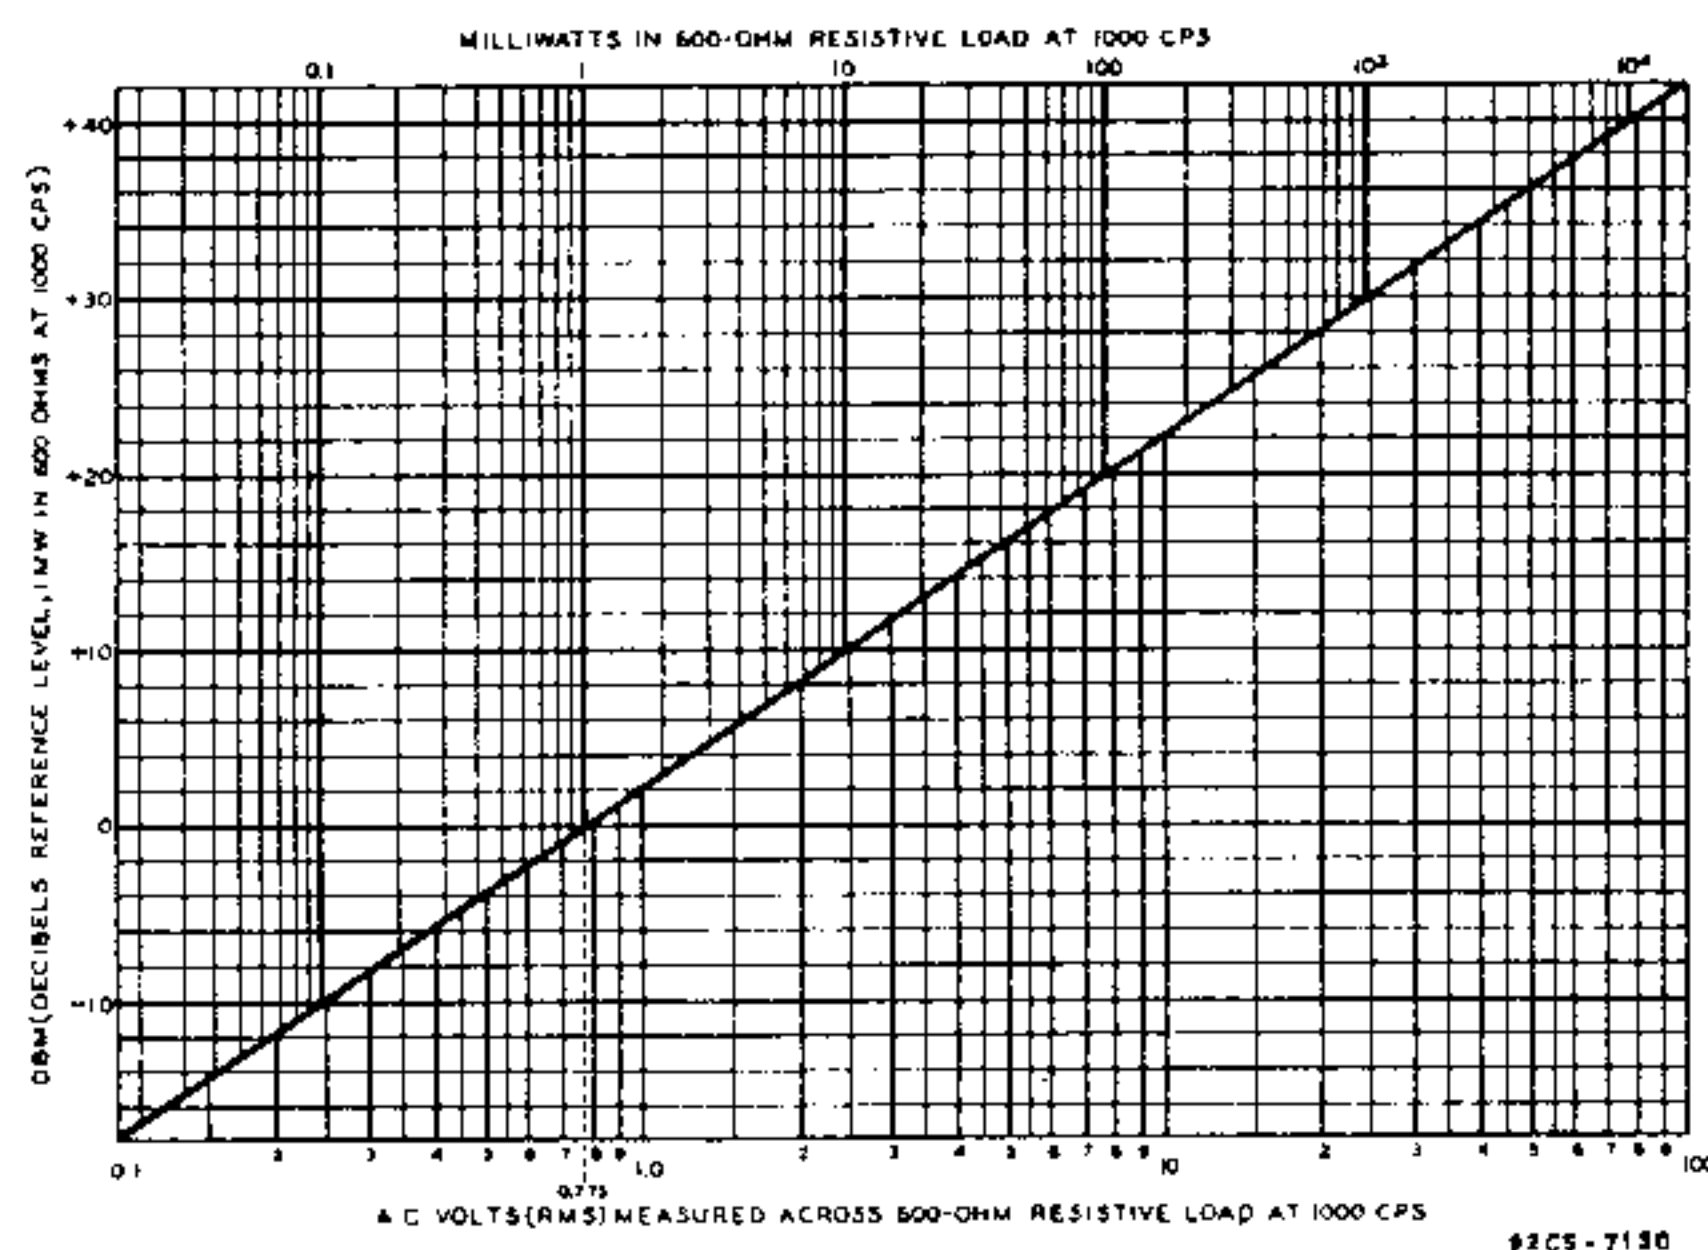

Figure 7. Graph for conversion of rms voltages to dbm values
The graph makes possible rapid conversion of rms voltages to corresponding dbm values. Associated power levels can be read along the top of the graph. If the rms voltage is measured across a resistive load other than 600 ohms, the correction factors given below must be added algebraically to the dbm values read from the graph in Figure 7. For resistive loads not given in the table, the following formula should be used for determining the correction factor:
*DBM is the increment to be added algebraically to the dbm value read from Figure 7.